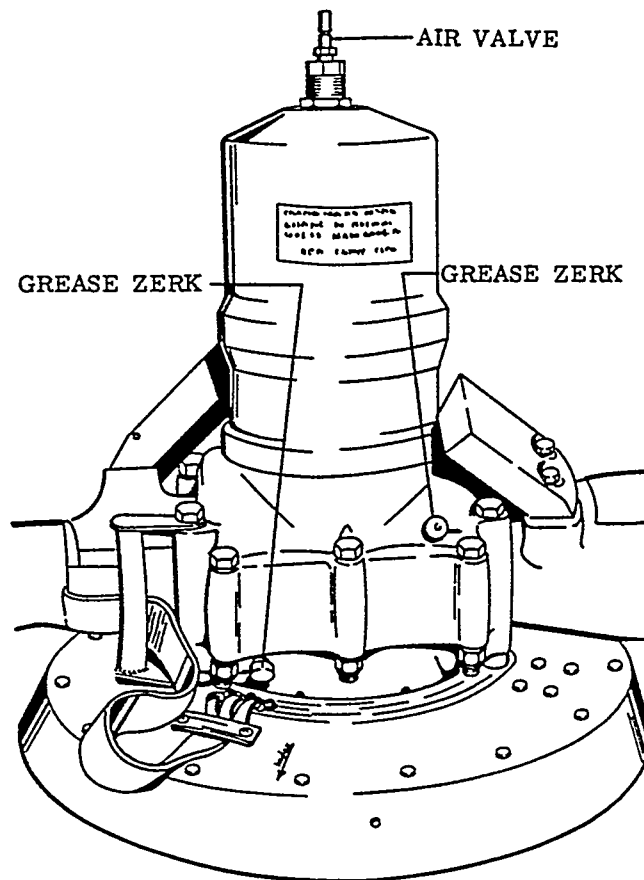

Figure 2-3. Propeller Servicing Points
(Figure 2-3)
- b. Remove the safety wire and covers from the four grease "zerks". See Figure 2-3 for location.